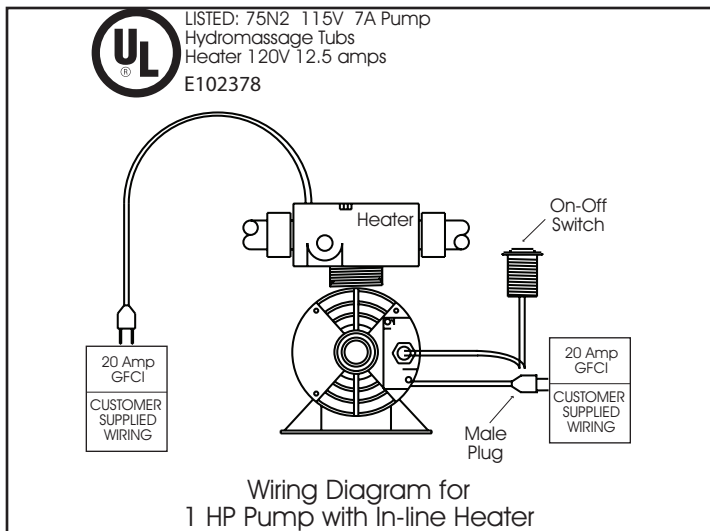

FIGURE 6
2.10 Connect bathing fixture by referencing the electrical drawings shown in (*Figures 6 thru 11A.*)